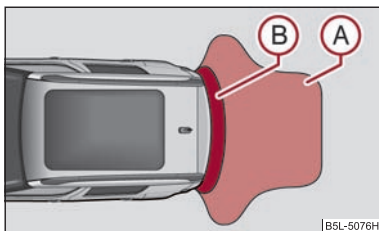
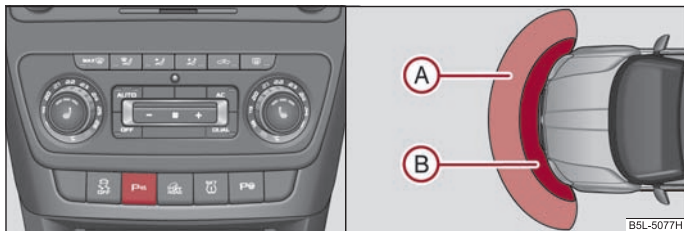

Fig. 112 Parking aid: Detection range of rear sensors
Fig. 113 Activating the parking aid/detection range of the front sensors
The clearance warning begins at a distance of about 160 cm from the obstacle (area **A**) → fig. 112). The interval between the warning signals becomes shorter as the clearance is reduced.
The distance warning begins at a distance of about 120 cm from the obstacle in front of the vehicle (area A ⇒ fig. 113) and about 160 cm from the obstacle behind the vehicle (area A) ⇒ page 107, fig. 112. The interval between the warning signals becomes shorter as the clearance is reduced.
The parking aid is activated when the **reverse gear** is engaged and the ignition is switched on or by pressing the button ⇒ fig. 113 - left, the symbol  lights up in the button. The activation is confirmed by a brief acknowledgement signal.
The parking aid is deactivated after pressing the button  ⇒ fig. 113 - left, or at a speed of more than 10 km/h - the symbol  in the button is no longer illuminated.
- If a warning signal sounds for about 3 seconds after activating the system and there is no obstacle close to your car, this indicates a system fault. The fault is confirmed additionally when the symbol  flashes in the button ⇒ fig. 113 - left. Have the fault rectified by a specialist workshop.